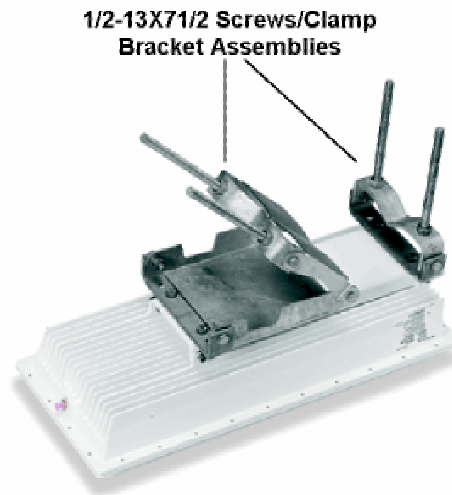

Figure 12. Screws/Clamp Bracket Assemblies Attached
6. Attach one of the 1/2-13x7 1/2 screws/clamp bracket assemblies to the u-shaped mounting bracket near the end of the BSU using two sets of 3/8-16x1 1/4 hex head screws, #3/8 split lock washers, and 3/8-16 hex nuts (see Figure 12). (In this configuration, the BSU points down when mounted on a pole.)
7. Attach the other 1/2-13x7 1/2 screws/clamp bracket assembly to the downtilt bracket using two sets of 3/8-16x1 1/4 hex head screws, #3/8 split lock washers, and 3/8-16 hex nuts (see Figure 12).